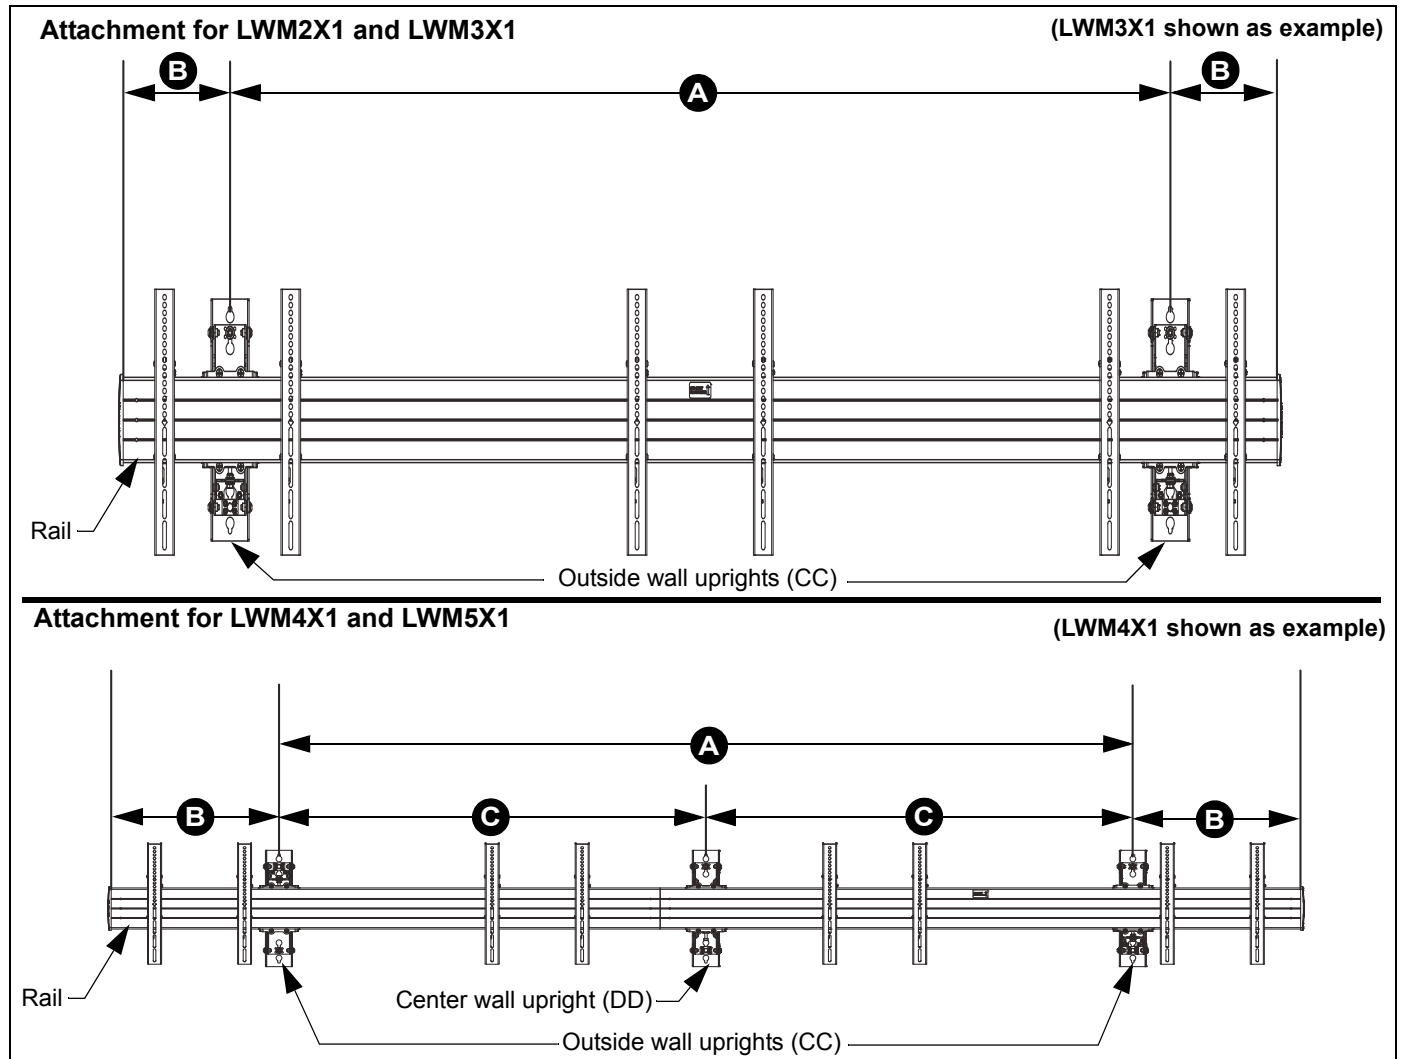
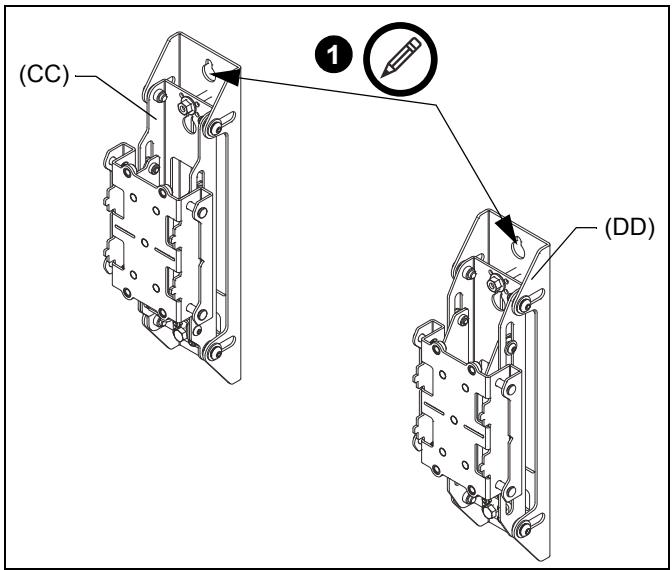

Figure 1
Figure 7
IMPORTANT ! : Reference **Wall Placement Information** section (See Figure 1) and Table 1.
- 1. Use the outside wall upright (CC) or center wall upright (DD) as a model to mark upper and lower pilot hole placement for 2 outside wall uprights (and center wall upright for LWM4X1 or LWM5X1 models) following wall placement information in Figure 1 and Table 1. (See Figure 7)